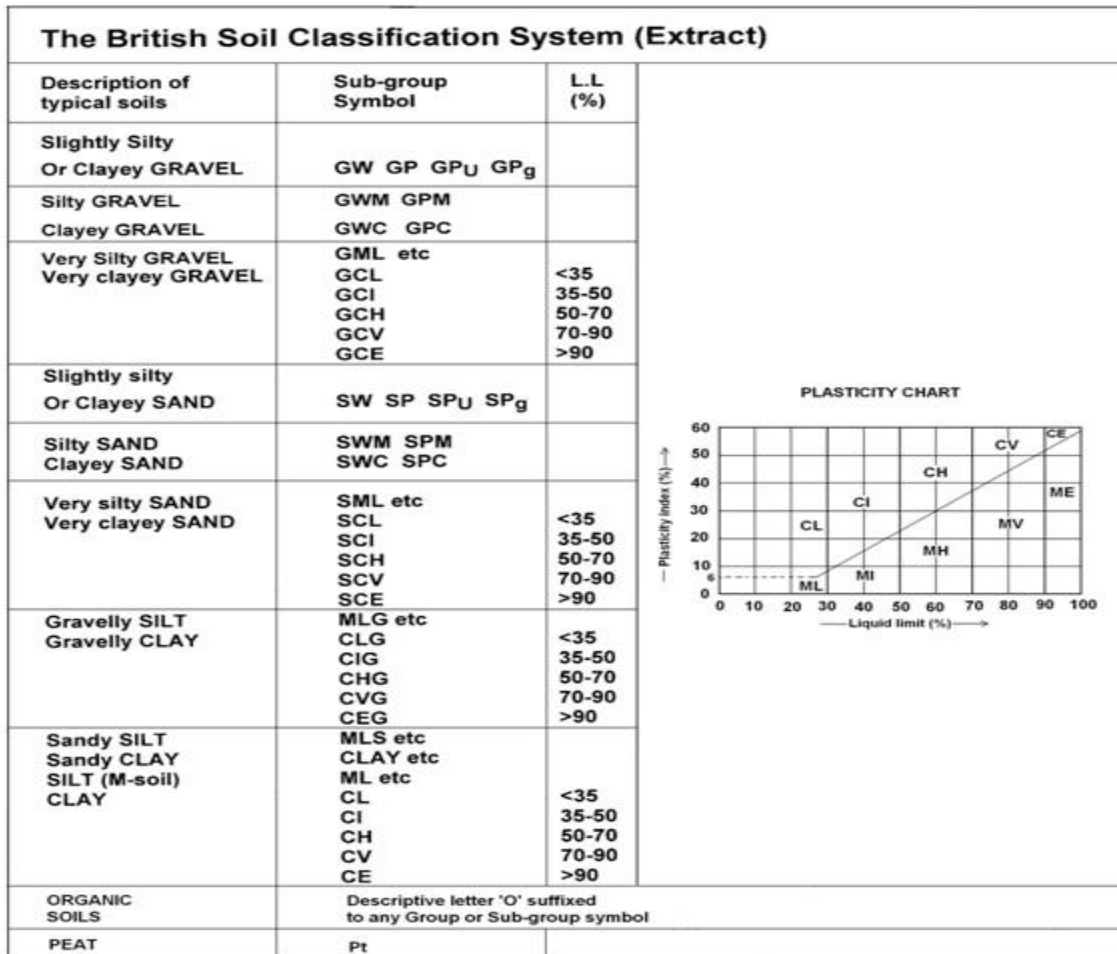

Fig.2
(iii) Using the results and figure 2, classify the soil tested,
- (iv) Classify the soil using figure 2. **(12 marks)**